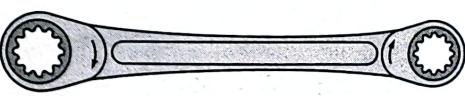

Fig. 1.32. (d) Ratcheting ring spanner.
5. Swivel head spanner : In swivel head spanner, a socket is permanently fixed to a handle. The socket can swivel around the handle to allow the user to access a fastener from a variety of angles. [See Fig. 1.32 (e)]